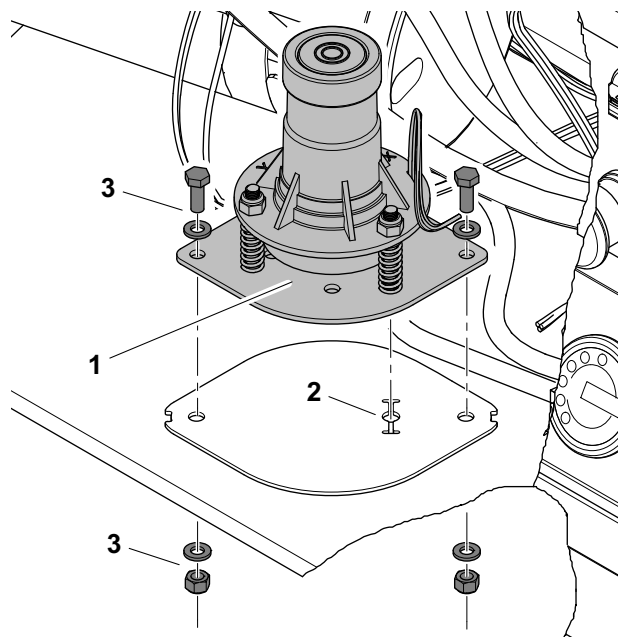

Figure 3-17. Tilt Sensor Installation
2. When mounting the tilt sensor back into the base frame, align the mounting pin on the bottom of the sensor with the hole in the mounting plate on the base frame (item 2 - Figure 3-17.).